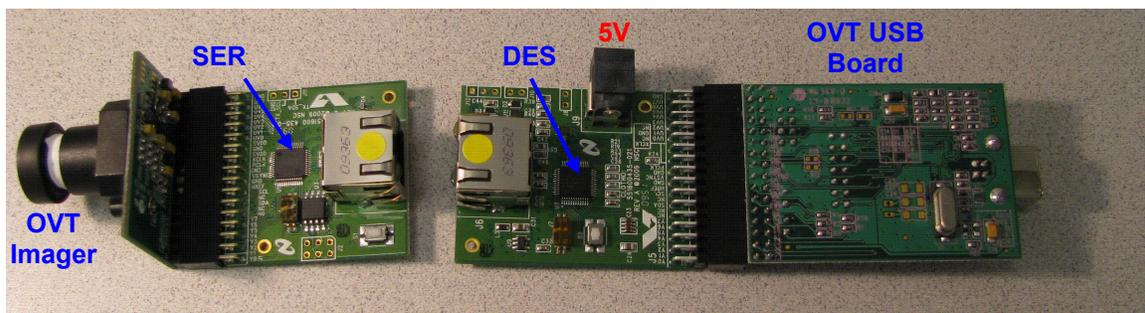

Figure 1. Imager - Serializer and Deserializer - Controller Connections
1. Connect the DS90C241 Serializer board to the Omnivision OV7710 Demo Board. Refer to Figure 1.
2. Connect the DS90C124 Deserializer board to the OmniVision USB Board. Refer to Figure 1.